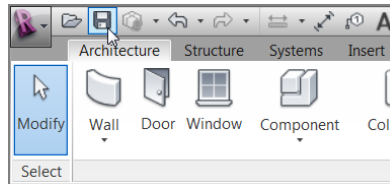

FIGURE 1.50: The traditional save icon brings up the Save As dialog if the file has never been saved.
1. Click the save icon (see Figure 1.50).